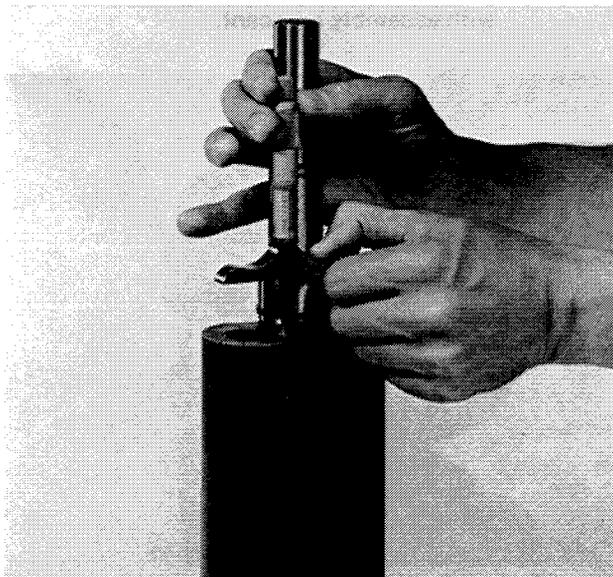

FIGURE 17B
- c. The clearance between the air box surface of the drive end plate and the drive end of the rotors is controlled by placing shims of the required number and thickness on the drive end of each rotor between the bearing spacer and the inner race of the ball bearing. The procedure for determining the shim thickness required for each shaft is as follows. Using depth micrometer, measure the distance from the planar air box surface to the inner race of the double row ball bearing reading to the nearest .0005 in. (see Fig. 17A). For the corresponding shaft, measure from the outer end of the bearing spacer to end of the rotor lobe reading to the nearest .0005 in. (see Fig. 17B). The first measurement minus the second measurement plus the appropriate drive end clearance specified in the table below is the total shim thickness required. (If specifications are outside these limits, contact factory.)